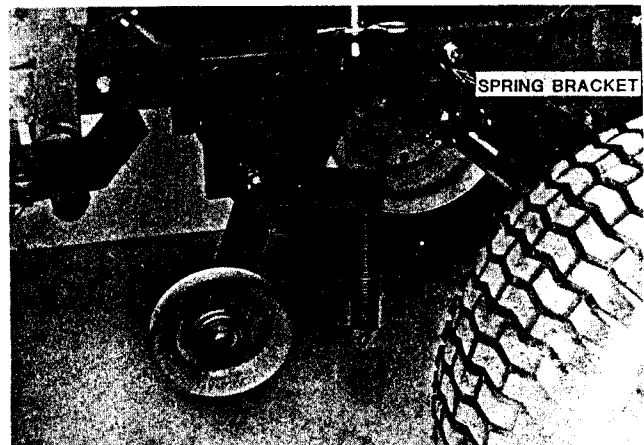

FIG. 15. Install Mid-Mount Idler Bracket
INSTALL MID-MOUNT IDLER AND BELT (Fig. 15)
Install the mid-mount idler bracket in the mid Tach-a-matic hitch. Secure the spring bracket to the frame with a 3/8-16 x 1 bolt and Eslok nut (Fig. 15). Tighten the bolt so the spring bracket is still free to move.
2. Remove the mid-mount idler bracket (Fig. 15)